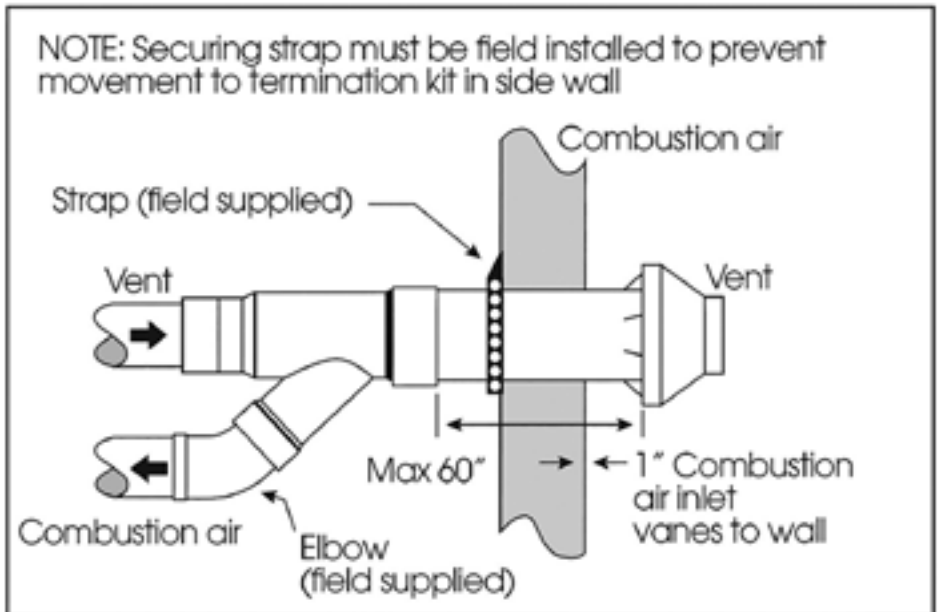

Figure 7: Sidewall Termination Details
- g) If the assembly is too short, the 2 pipes supplied in the kit may be replaced by using same diameter, field supplied SDR—26 PVC (D2241) pipe. Do not extend pipes with Schedule 40 PVC or couplings. The additional wall thickness will restrict combustion air and may cause operational problems. Do not extend air inlet pipe more than 60" (see Figure 7).
9. Secure to structure (Figure 7) using metal strapping or equivalent support material (user supplied).
10. Cement furnace combustion air and vent pipes to Concentric Vent. Refer to Figure 7 for proper pipe attachment.